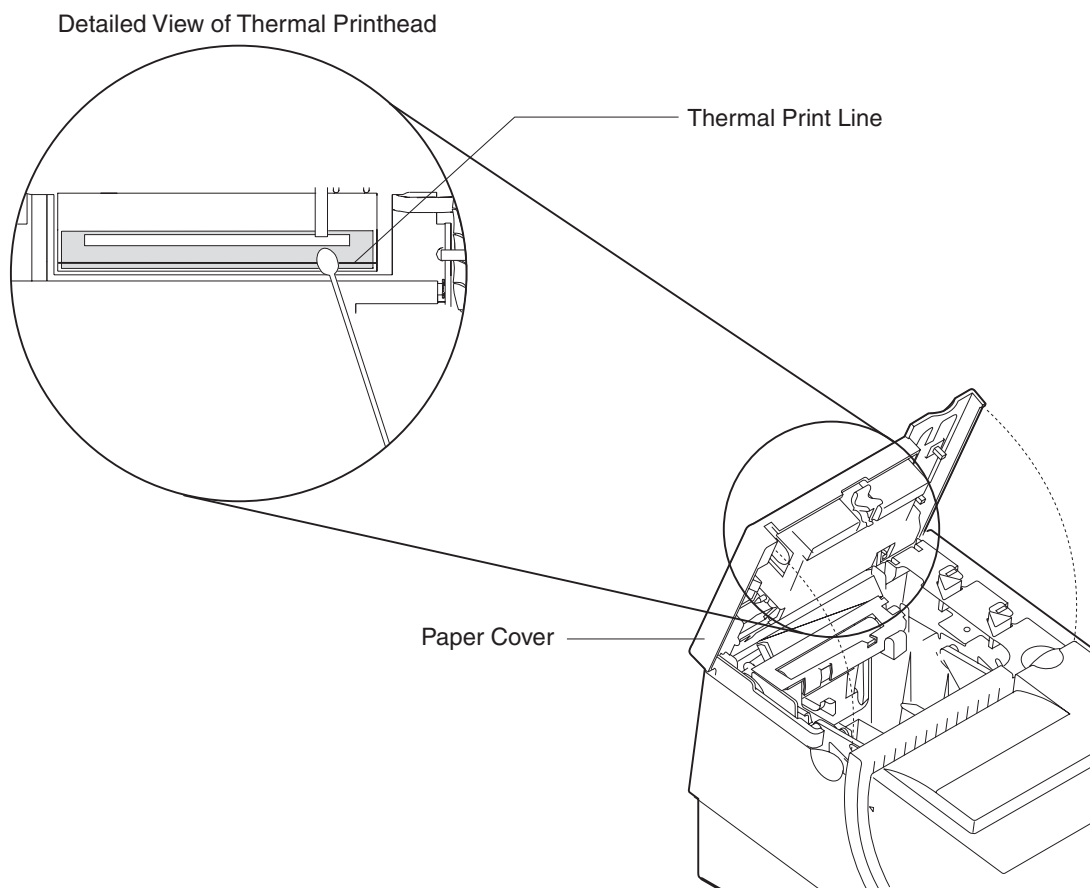

Figure 33. Print head and print line area (Models T11, T12, T13, T14, T18, T19, TG3, TG4, TG8, and TG9)
2. Using a cotton swab soaked in isopropyl alcohol, gently wipe the print head several times on its print line and on the surrounding area. See Figure 33 on page 58.